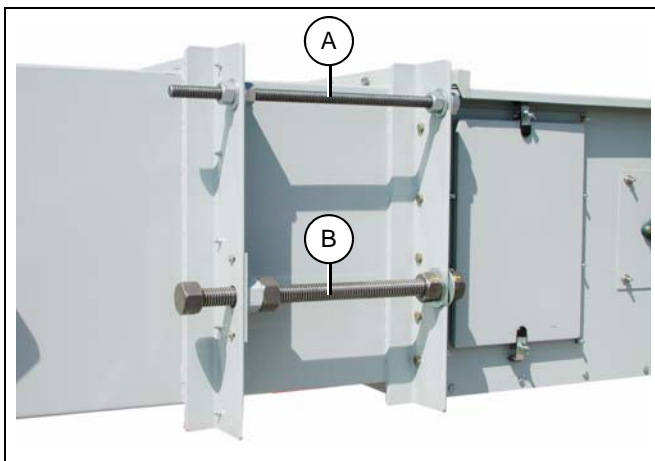
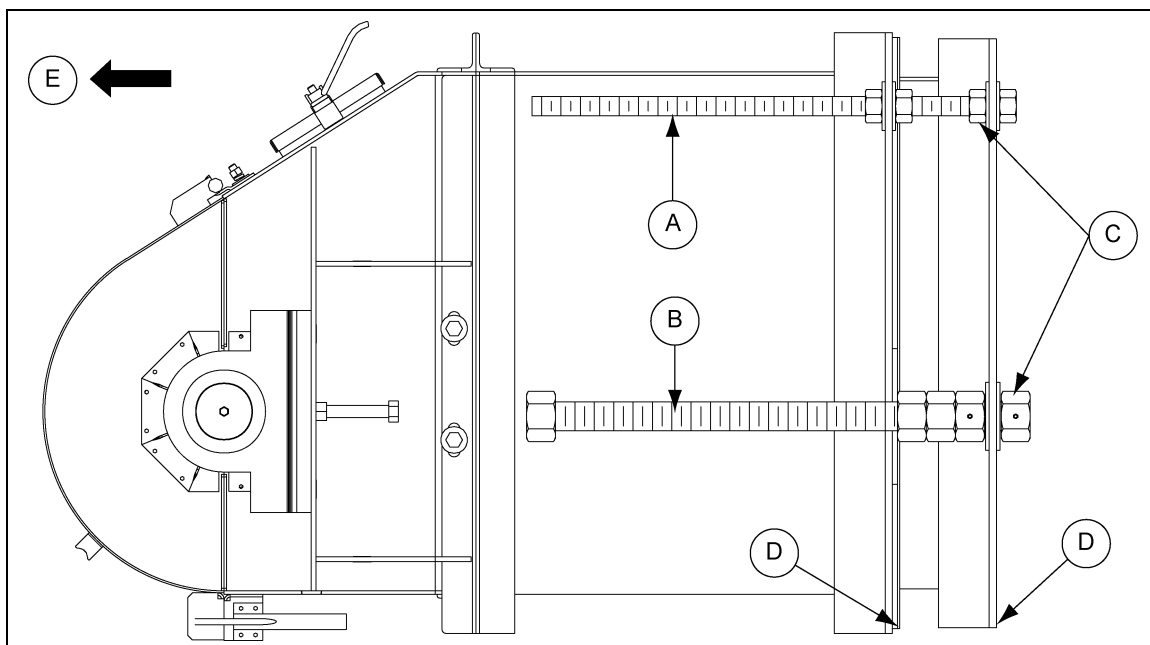

Figure 6T
Figure 6U Tail Section
1. Conveyor belts stretch when new and must be checked at regular intervals. After approximately two (2) weeks of usage, checks of belt tension may be done at less frequent intervals.
3. The belt is tightened by turning the take-up rods located on the tail section. Make sure that they are adjusted equally to prevent misalignment. The conveyor belt should be tightened enough to prevent the belt from slipping on the drive pulley. When done adjusting take-up rods, tighten nuts against flanges to lock in place. (See Figure 6T and Figure 6U.)